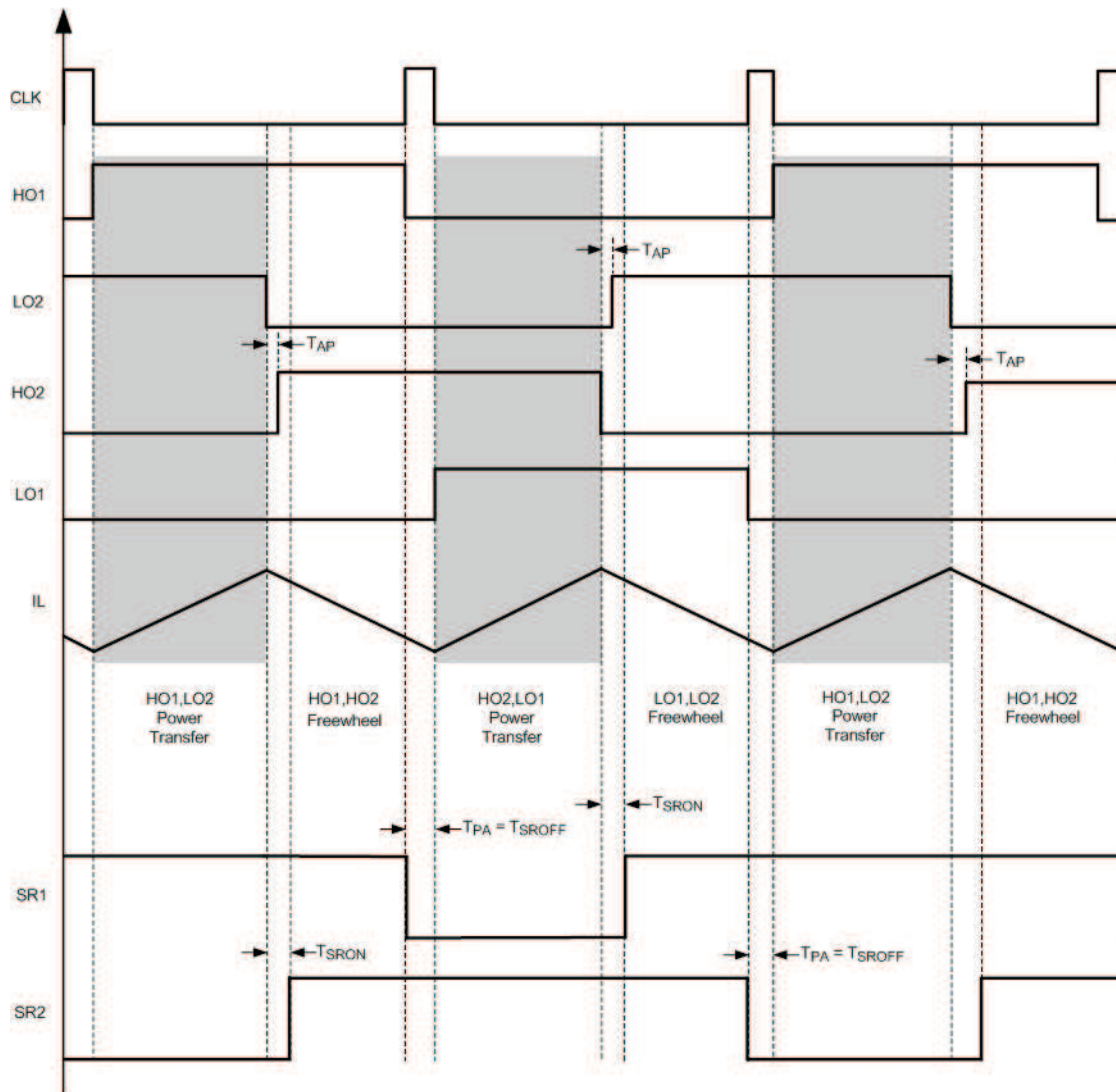

Figure 16. Synchronous Rectifier Timing Diagram
Synchronous rectification (SR) of the transformer secondary provides higher efficiency, especially for low output voltage converters, compared to the diode rectification. The reduction of rectifier forward voltage drop (0.5V - 1.5V) to 10mV - 200mV VDS voltage for a MOSFET significantly reduces rectification losses. In a typical application, the transformer secondary winding is center tapped, with the output power inductor in series with the center tap. The SR MOSFETs provide the ground path for the energized secondary winding and the inductor current. From Figure 16 it can be seen that when the HO1/LO2 diagonal is turned ON, power transfer is enabled from the primary. During this period, the SR1 MOSFET is enabled and the SR2 MOSFET is turned-off. The secondary winding connected to the SR2 MOSFET drain is twice the voltage of the center tap at this time. At the conclusion of the HO1/LO2 pulse, the inductor current continues to flow through the SR2 MOSFET body diode. Since the body diode causes more loss than the SR MOSFET, efficiency can be improved by minimizing the T_{SRON} period. In the LM5046, the time T_{SRON} is internally fixed to be 30ns. The 30ns internally fixed dead-time, along with inherent system delays due to galvanic isolation, plus the gate drive ICs, will provide sufficient margin to prevent the shoot-through current.
During the freewheeling period, the inductor current flows in both the SR1 and SR2 MOSFETs, which effectively shorts the transformer secondary. The SR MOSFETs are disabled at the rising edge of the CLK, which also disables HO1 or LO1. As shown in Figure 16, SR1 is disabled at the same instant as HO1 is disabled, and SR2 is disabled at the same instant as LO1 is disabled. The dead-times, T_{SROFF} and T_{PA} achieve two different things but are set by single resistor, RD1. Therefore, RD1 value should be selected such that the SR1/SR2 turns-off before the next power transfer cycle is initiated by T_{PA} .